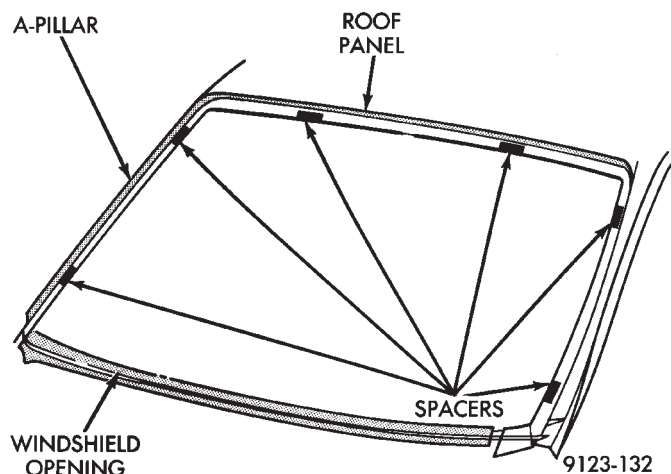
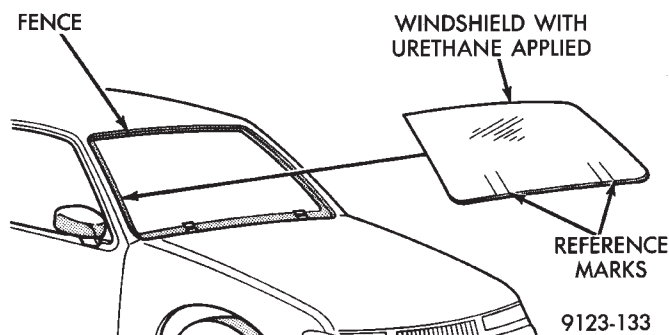

Fig. 5 Position Urethane Compression Spacers
Fig. 6 Lower Windshield Into Position
- (6) Clean inside of windshield with ammonia based glass cleaner and lint-free cloth.
- (7) Apply molding to perimeter of windshield.
- (8) Apply Glass Prep adhesion promoter 25 mm (1 in.) wide around perimeter of windshield and wipe with clean/dry lint-free cloth until no streaks are visible.
- (9) Apply Glass Primer 25 mm (1 in.) wide around perimeter of windshield. Allow at least three minutes drying time.
- (10) Using a razor knife, remove as much original urethane as possible. Do not damage paint on windshield fence.
- (11) Apply pinch weld primer 15 mm (.75 in.) wide around the windshield fence. Allow at least three minutes drying time.
- (12) If a low viscosity urethane adhesive is used, install compression spacers on the fence around the windshield opening (Fig. 5).
- (13) Apply a 10 mm (0.4 in.) bead of urethane on centerline of windshield fence.
- (14) With the aid of a helper, position the windshield over the windshield opening. Align the reference marks at the bottom of the windshield to the support spacers.
- (15) Slowly lower windshield glass to windshield opening fence. Guide the molding into proper position as necessary. Push windshield inward molding is flush to roof line and A-pillars (Fig. 6).
- (16) Clean access urethane from exterior with Mopar® Super Kleen or equivalent.
- (17) Apply 150 mm (6 in.) lengths of 50 mm (2 in.) masking tape spaced 250 mm (10 in.) apart to hold molding in place until urethane cures.
- (18) Install windshield side moldings and drip rail weatherstrips.
- (19) Install cowl cover and wipers.
- (20) Install inside rear view mirror.